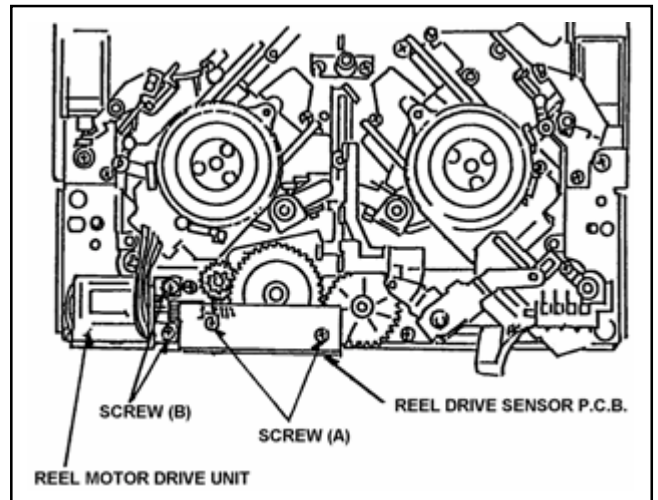

Figure 5-24-1
2. Unscrew the 2 screws (A) and remove the Reel Drive Sensor P.C.Board as shown in Figure 5-24-1.
3. Unscrew the 2 screws (B) and remove the Reel Drive Motor Unit as shown in Figure 5-24-1.